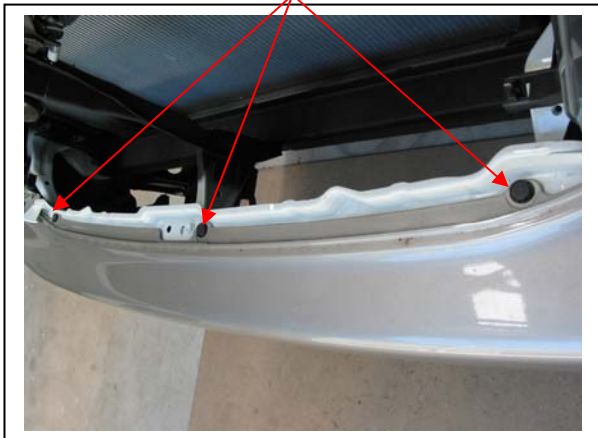

Figure 1
1. Lift Bonnet. Remove grille, three PK screw at top and two plastic clips at bottom. Remove bumper cover. Three plastic clips behind bottom of grille area, **See figure 1**, one 10mm head PK screw (each side at top of bumper side returns and four to six 10mm head bolts (depending on model) along bottom of bumper.